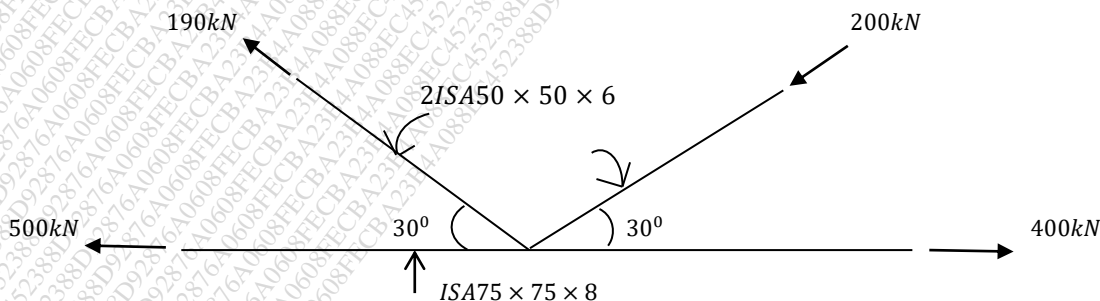

Fig. 1
b. Design connections for members of roof truss, with gusset plate 12 mm thk, as shown in the fig1.using 16mm dia. Bolt of grade 4.6 10
Q.2 a) Find the size of fillet weld required to connect the backed plate to the column as shown in below fig.1 the permissible stresses in weld is 110 N/mm^2 . 07